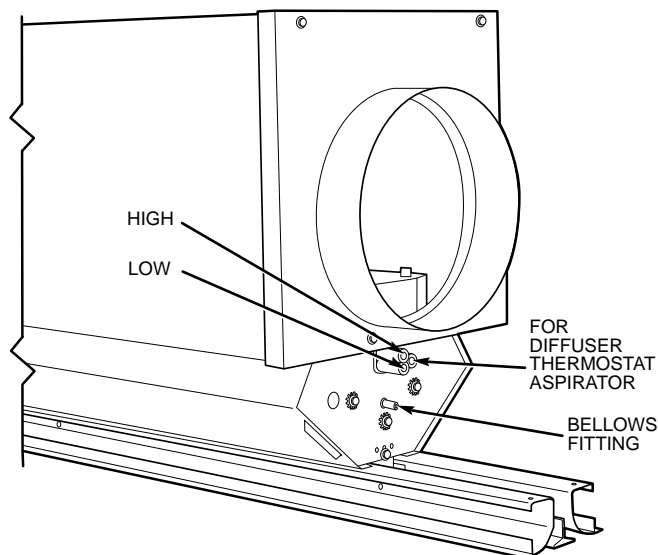

Fig. 22 — Typical 37HS Air Terminal Before Installation of Controls
2. Remove cap from bellows fitting and install $\frac{1}{16}$ -in. long piece of $\frac{1}{4}$ -in. OD pneumatic adapter tubing onto the bellows fitting (push on full length of fitting). See Fig. 22.